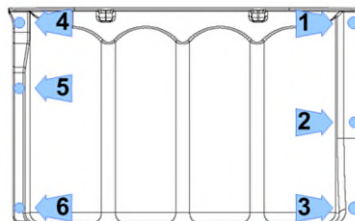

Figure 31 – Capacitor Cover Torque Sequence
26. Place the Capacitor Cover and secure it with the long screw (M5 x 20) and flat washer in position number three (3) as shown in the following figure. Use five (5) remaining screws to secure the cover. Fasten according to the sequence in Figure 31 (Capacitor Cover Torque Sequence). Follow the sequence twice.